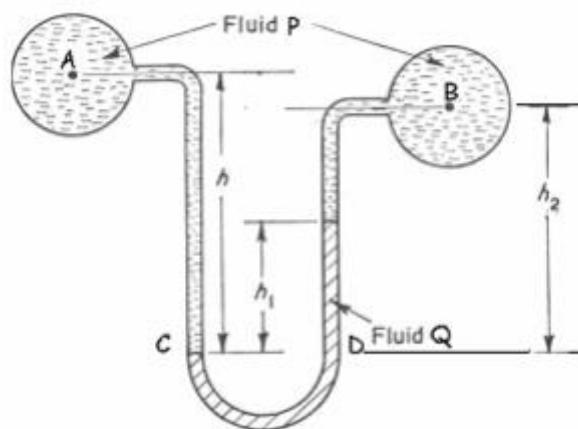

Figure 1/ Rajah 1
- a) A U tube manometer in **Figure 1** measures the pressure difference between the two points which are point A and B in a liquid. The U tube contains mercury and water. Calculate the pressure difference if $h = 1.5 \text{ m}$, $h_2 = 0.75 \text{ m}$, $h_1 = 0.5 \text{ m}$. The liquid at A and B is water. Given the specific gravity of mercury is 13.6.